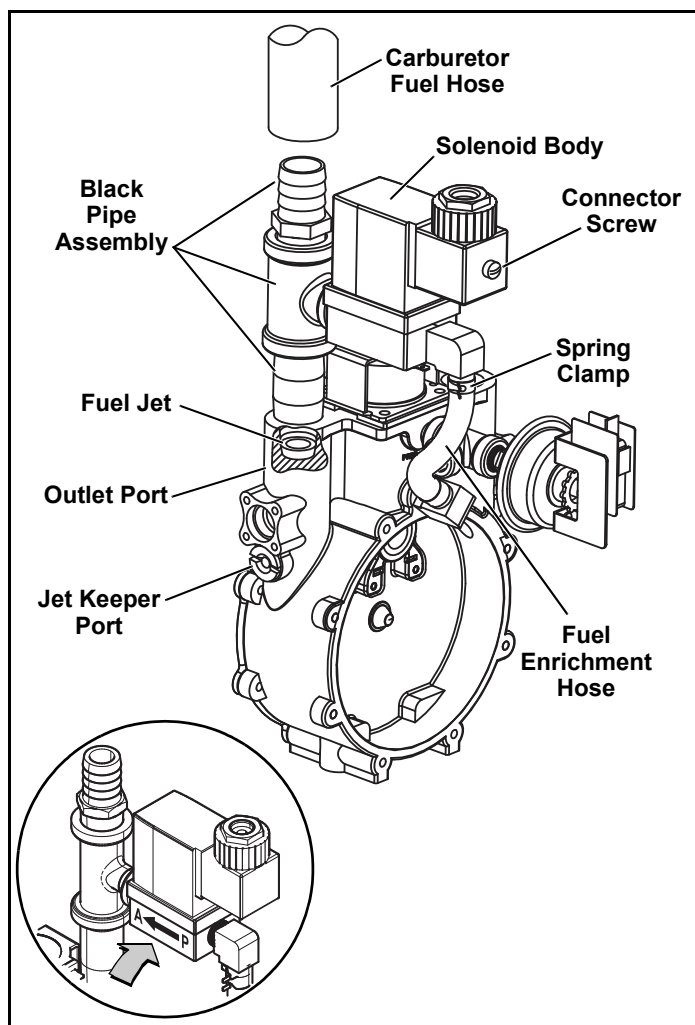

Figure 2-3. Demand Regulator Assembly
3. Remove carburetor fuel hose from outlet port. See Figure 2-3.
NOTE: Solenoid must be installed with flow arrow pointed toward black pipe assembly. See inset of Figure 2-3.